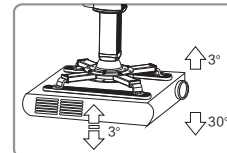

Figure 13
2. The direction of projector can be adjusted by forward 30° and backward 3° . Left and right adjustment is 3° . Figure 13.